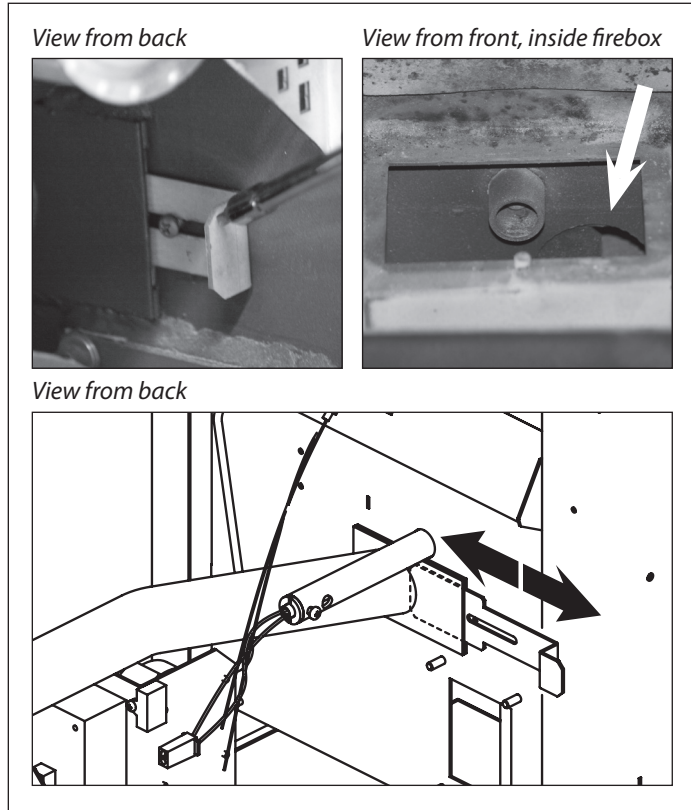

Figure 27
**ADJUST THE AIRFLOW GATE BEFORE INCREASING THE EXHAUST VOLTAGE.** If you are having issues with getting enough air to your fire, **FIRST** try to adjust the air flow gate. **SEE FIGURE 27.** This will also adjust the air flow to the stove. In most installations, the air flow gate should be 1/2 open. this is best viewed from the front of the stove with the fire pot removed.